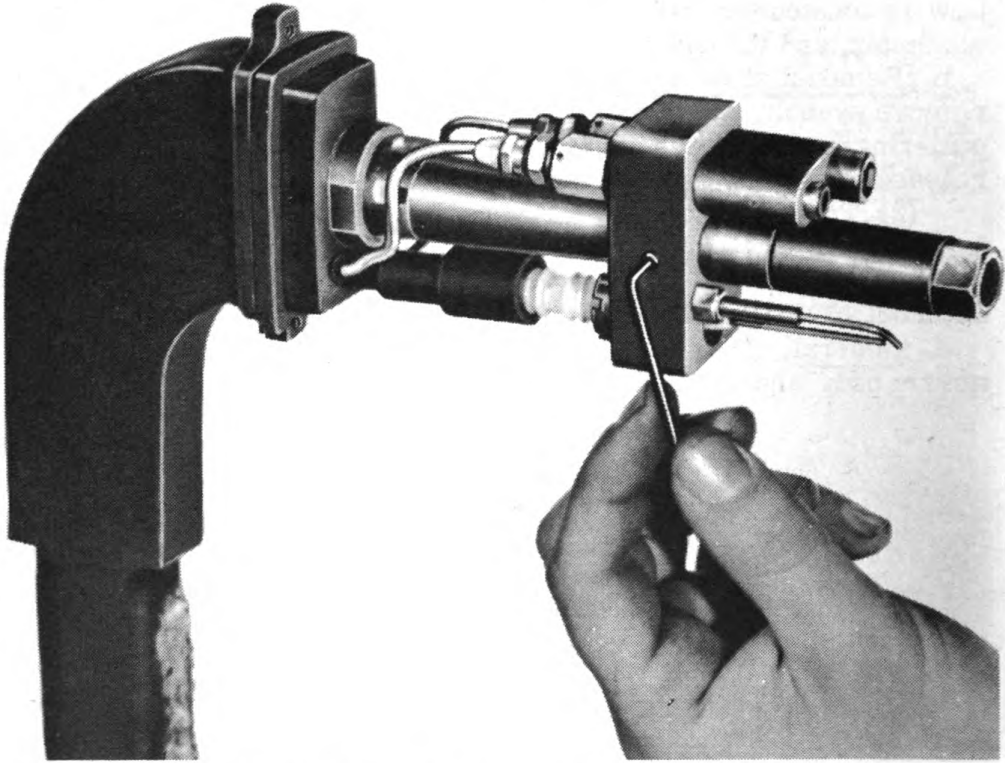

Fig. 65. Loosening atomizer mounting plate set screw.
- Loosen the set screw located on each side of the atomizer mounting plate (fig. 65).